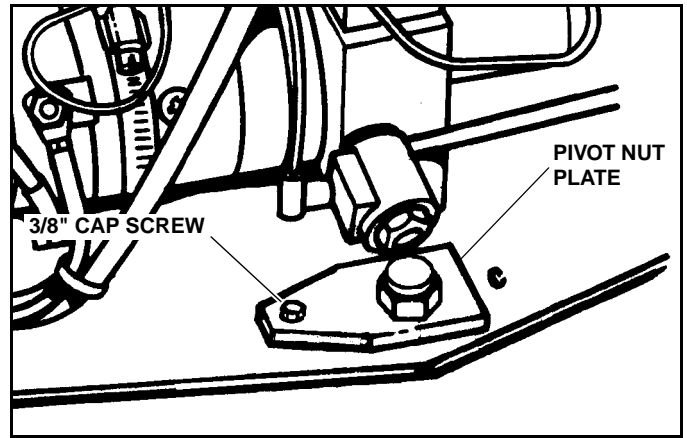

Figure 2-7
22. Reinstall 1" Pivot Bolt and tighten nut finger tight. (See Figure 2-7)
23. Install Pivot Nut Plate and secure with 3/8" Cap Screw. (See Figure 2-7)